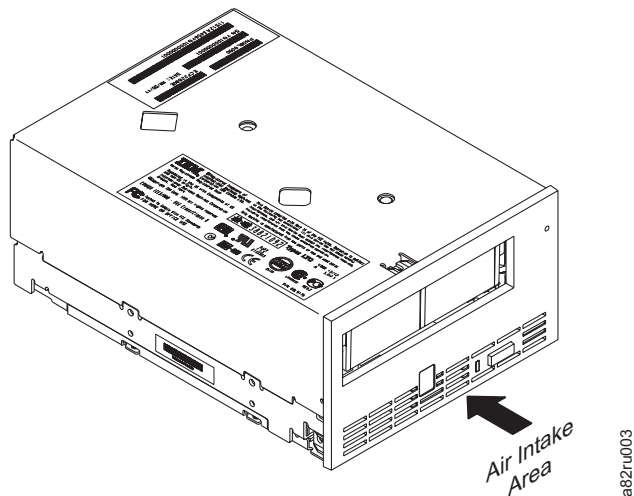

Figure 6. Temperature of the drive is taken near the air intake area
**Note:** Measured in front of the bezel, near the air intake area (refer to Figure 6 on page 14).
Acclimation time is required if the temperature of the drive when unpacked is different than the temperature of its operating environment (measured at the front of the bezel near the air intake area as shown in Figure 6). The recommended acclimation time is four hours after the drive has been unpacked or one hour after any condensation that you can see has evaporated, whichever is greater. When acclimating the drive, apply the following measures: